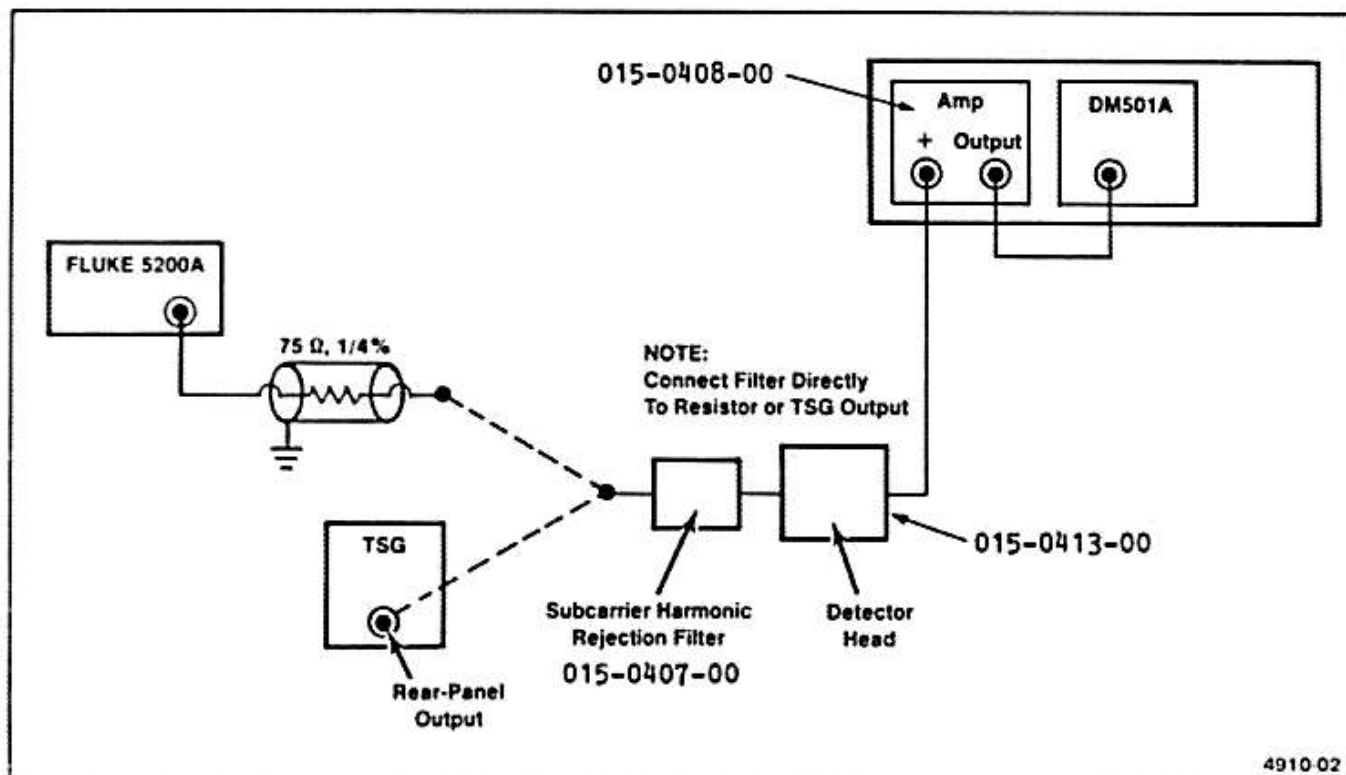

Fig. 2. Equipment Connection For Chrominance Amplitude Measurement.
d. Connect Fluke 5200A with 75 Ω series resistor as shown in Fig. 2.
g. Move the filter and detector head to the output of the TSG21 (see Fig. 2). Do not readjust the p-p detector level control. Set the BCD switch to the appropriate bar (Red, Green, or Blue).